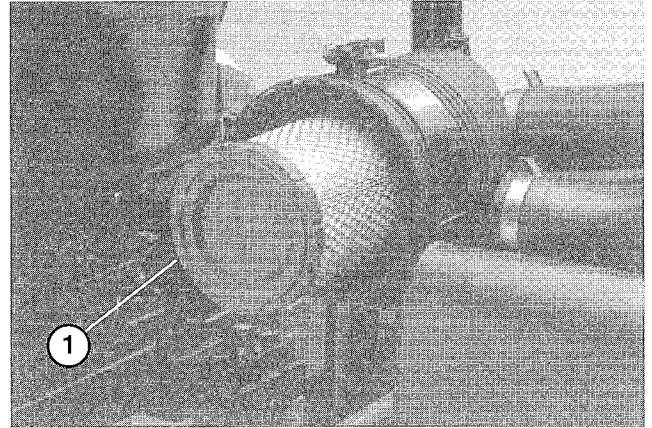

Figure 42
2. Gently slide primary filter (Fig. 42) out of air cleaner body to reduce the amount of dust dislodged. Avoid knocking filter against air cleaner body. **Do not remove safety filter.**